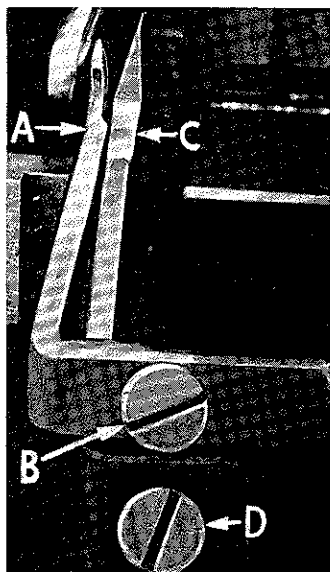

Fig. 6
Set rear needle guard (A, Fig. 6) as high as possible, without interfering with either lower looper or spreader, or movement of lower knife holder, but still in position to deflect needle forward .002-.004 inch. Screw (B) is used to set rear needle guard. Make sure there is no interference between rear needle guard and lower looper or spreader.
Assemble front needle guard (C, Fig. 6). When lower looper is springing needle off rear needle guard, set front needle guard as close as possible to needle without touching. Screw (D) is used to adjust and set front needle guard. After this setting make sure there is no interference between needle guards and differential feed dog.